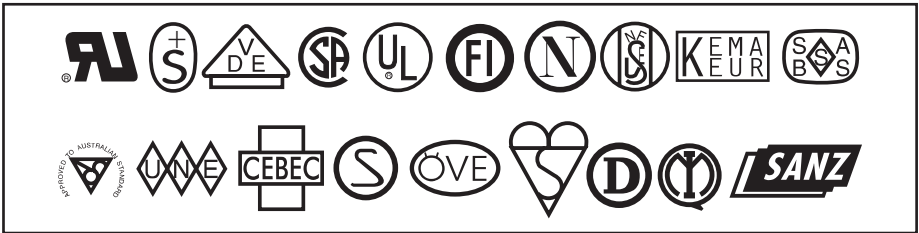
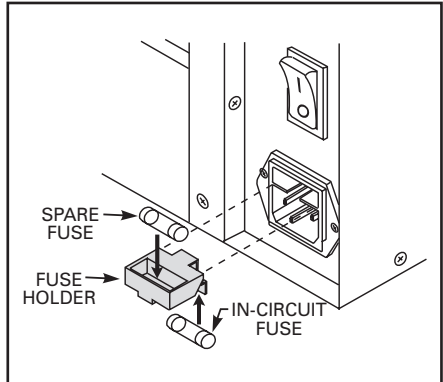

Figure 2
Figure 4
4. The AC power plug and IEC 320 connector must bear the certification mark of at least one of the known international safety organizations shown in Figure 2.
The XiIII-Series printer uses a metric-style fuse (5 x 20 mm IEC) rated at F5A, 250V. The AC Power Entry Module comes with two approved fuses in the Fuse Holder: one is “In-Circuit” and the second is provided as a “spare” (refer to Figure 4). The end caps of the fuse must bear the certification mark of a known international safety organization (refer to Figure 2). To replace a faulty fuse, use the following procedure.
2. Remove the faulty fuse and install a new fuse in the “In-Circuit” position shown in Figure 4. If you use the Spare Fuse, be sure to order a new replacement fuse. Fuses can be ordered from your Zebra distributor.